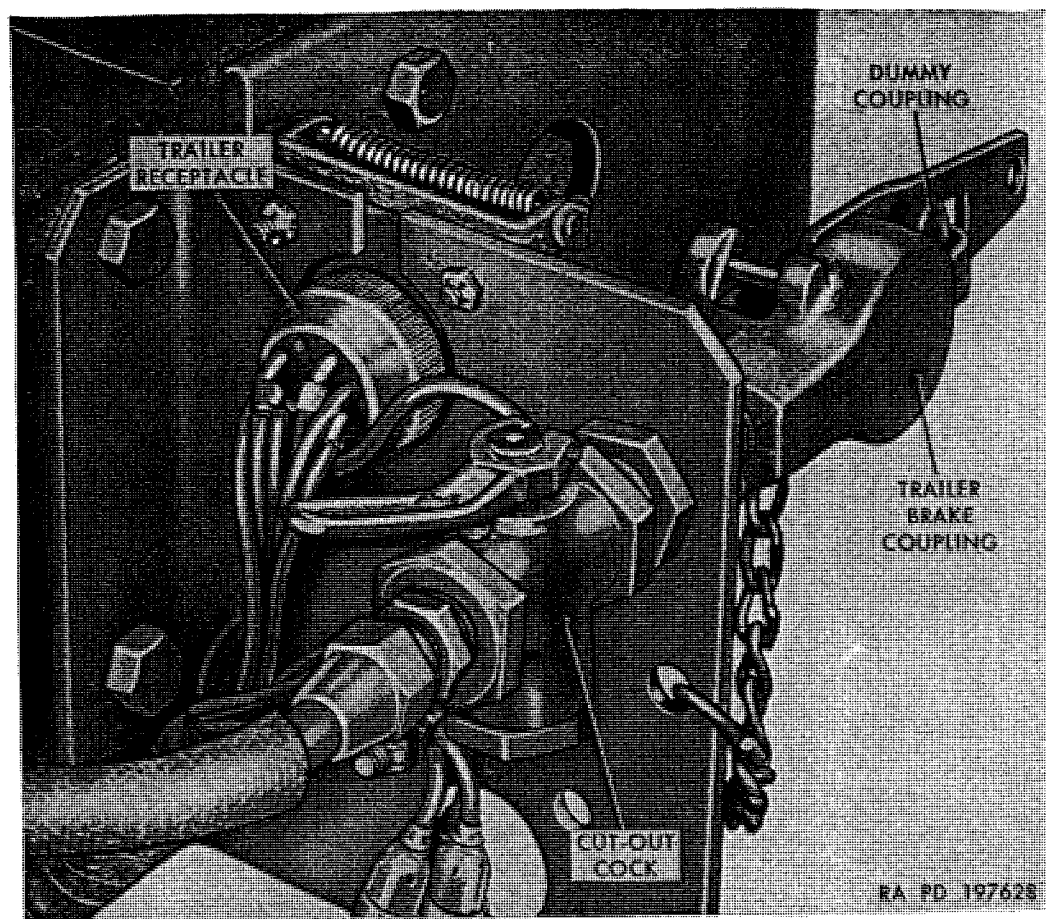

Figure 257. Trailer brake coupling and cutout cock installed at rear of frame (left side shown).
b. Trailer Brake Coupling Replacement (fig. 257 or 258)
- (1) *Removal.* Cutout cock must be closed. Remove dummy coupling from trailer coupling. Unscrew coupling from cutout cock connector.
- (2) *Installation.* Coat threads of cutout cock connector sparingly with plastic-type gasket cement. Thread trailer coupling onto connector and tighten. Assemble dummy coupling to trailer coupling.
d. Trailer Brake Cutout Cock Replacement (fig. 257 or 258).
- (1) *Removal*. Exhaust air pressure from system before removing cutout cock at trailer brake EMERGENCY line coupling. Disconnect air line from cutout cock. Unscrew cutout cock from connector.
- (2) *Installation*. Coat threads of cutout cock connector with plastic-type gasket cement. Thread cutout cock onto connec-